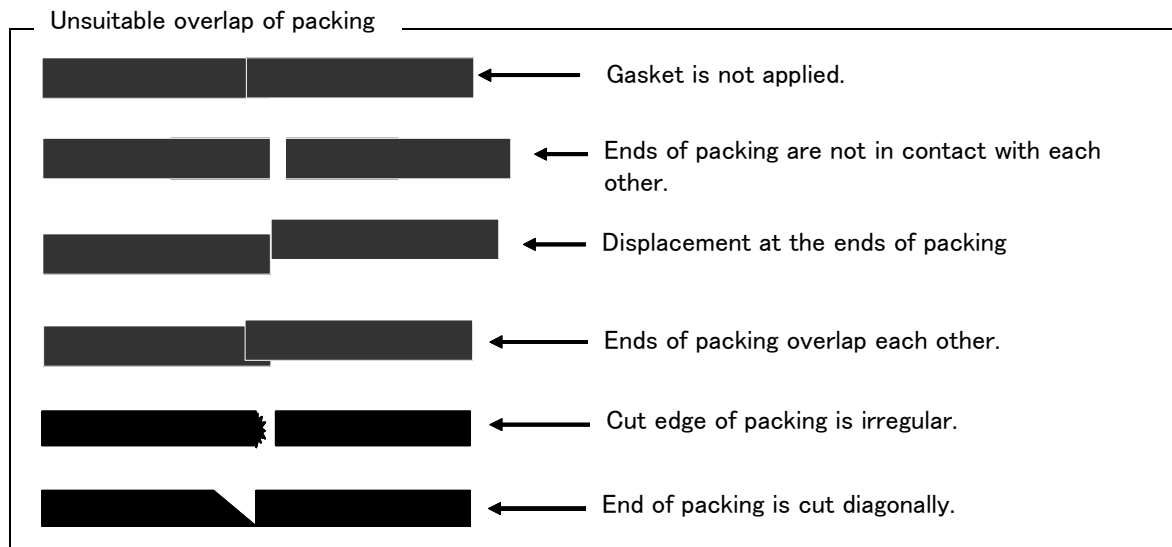

Fig.5-7 : Examples of packing overlaps
- 4) Although the No.2 arm cover (U) sticks two or more packings per place, it has length with which packing ends overlap. Stick packing in the following procedures. For more information, see "Fig.5-7 : Examples of packing overlaps". Examples of improperly treated cut edge are shown, as well.